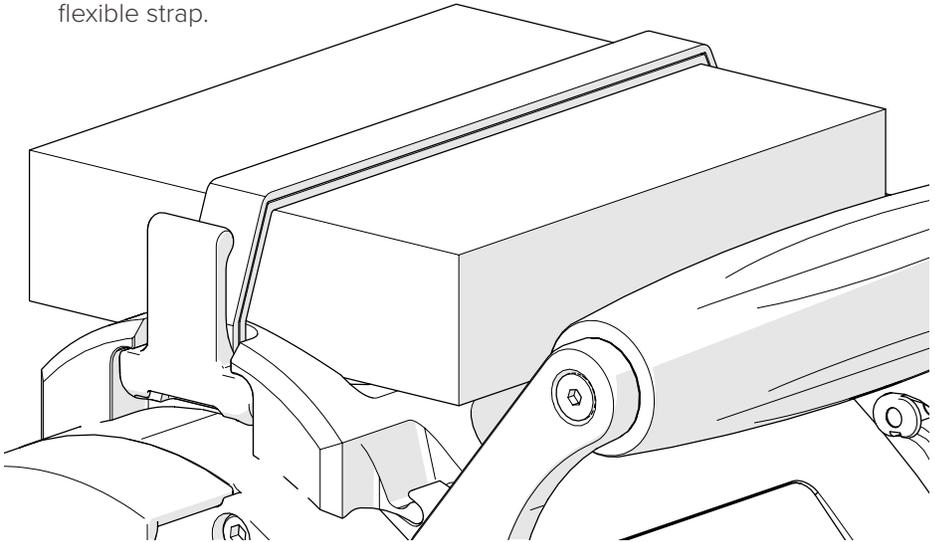

Fig. 104 - Press lever into backpack to lock in place
2. Place the scanning accessory on the backpack. Pull the strap lever across the accessory and fit the lever into place on the backpack (*Fig. 104*).